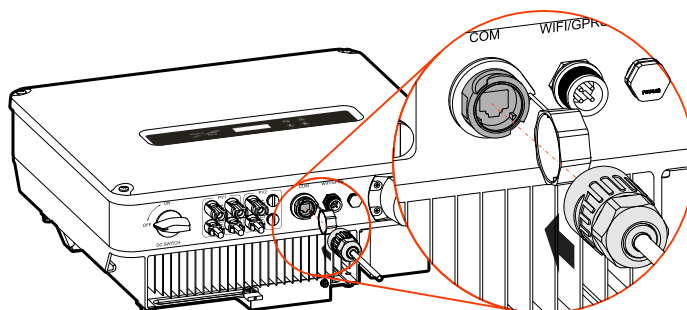

Figure3-31 Insert the COM. port
- Step 3 Unscrew the waterproof cover on the COM. port, insert the RJ45 connector to the COM. port (as shown in Figure3-31) and screw it.